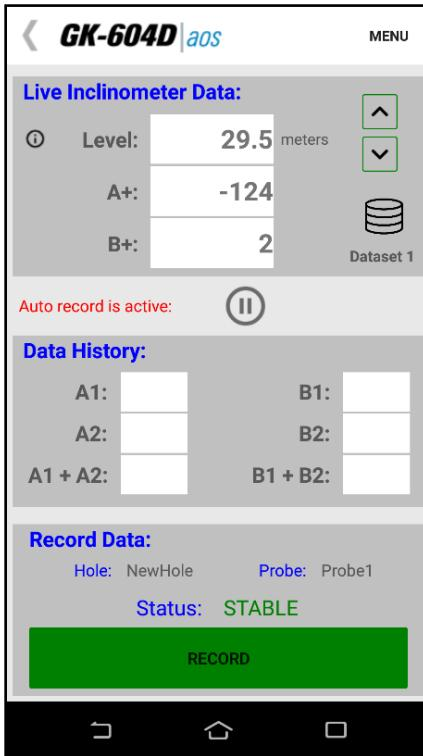

Figure 61 - Auto Record Active
To activate the “Auto Record” feature, tap on the icon. The “Play” icon to the right of the red message status text will be replaced with a “Pause” icon and the red text status message will change to “Auto record mode is active”. If the readings are stable, the first reading will automatically be recorded (Figure 61).
- 3) Tap on the icon to activate the “Auto Record” feature. The red status text message will change to “Auto record is active” and the “Play” icon will change to the “Pause” icon. If the readings are stable, the initial A & B readings will be taken and a “beep” sound should be heard, confirming that the readings have been stored (see Figure 61). If no beep is heard, tap the “volume” control at the top of the screen and adjust the volume.